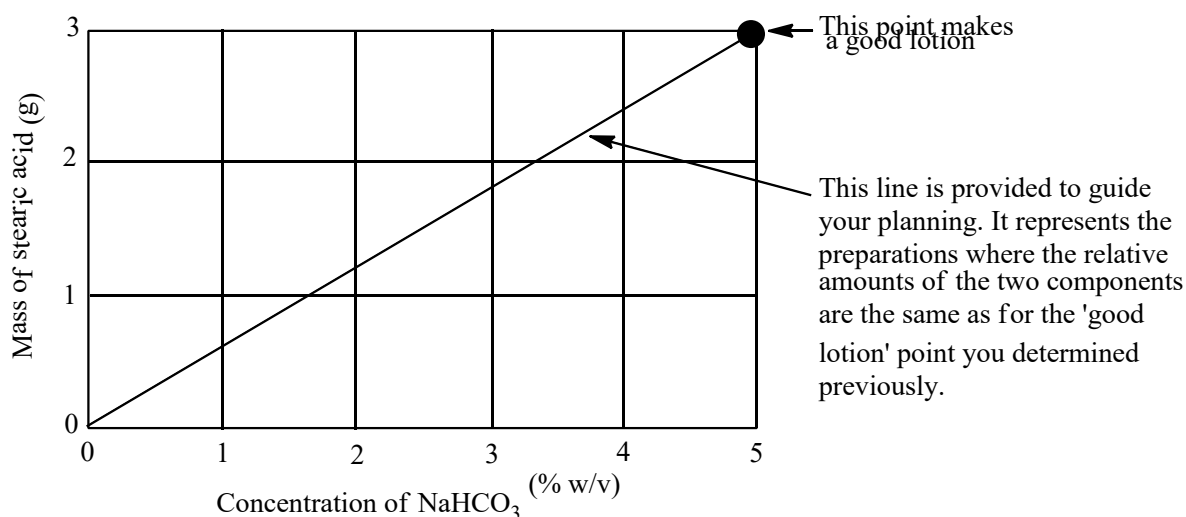

Figure 3: Each possible preparation is a point on this grid.
- (D1) Devise a plan of the various compositions that you will test. Use no more than 4 different compositions. Using a grid or matrix might help (an example is given in Figure 3). Remember you would like to focus your testing on composition ranges where success is likely, so think about the compositions that you might exclude. All dilution calculations must be neatly recorded in your logbook. After you have mixed your different compositions, you can cool them on ice.